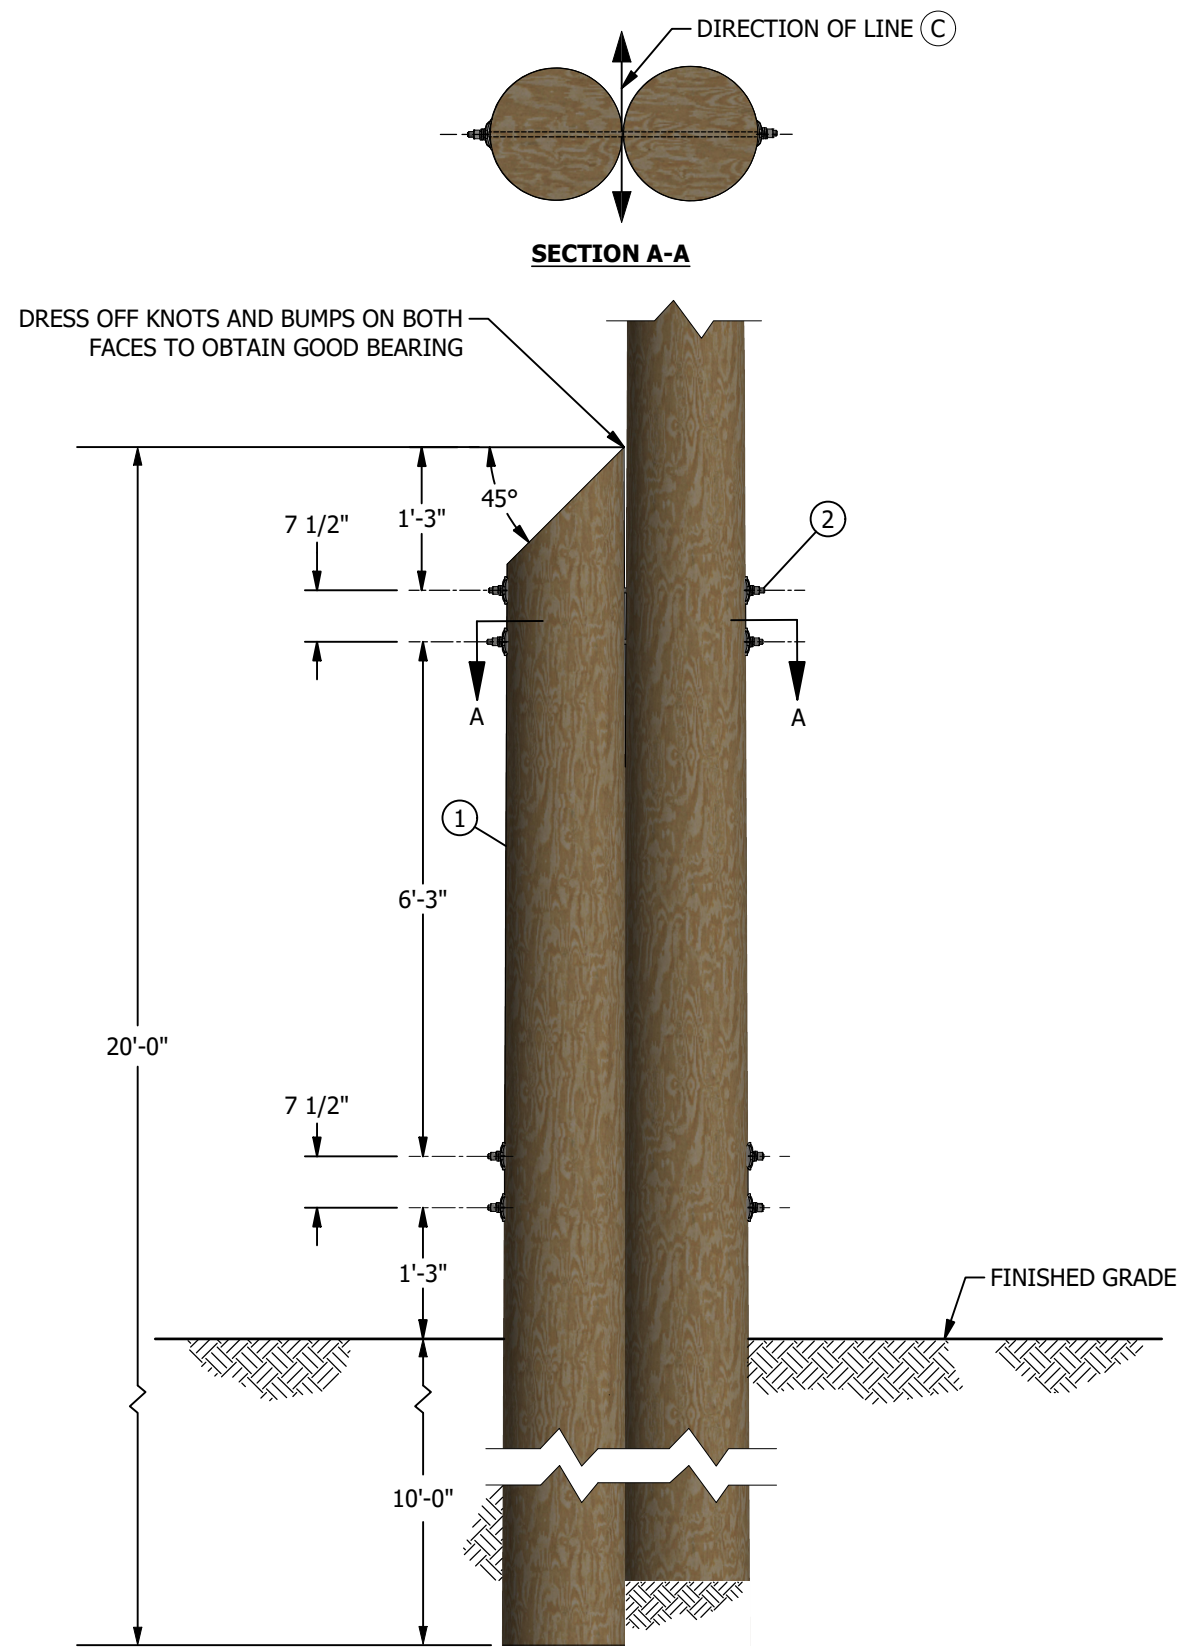

FIGURE 1
- B. STRAP INSTALLATION: STRAPS ARE TO BE INSTALLED AS SHOWN IN FIGURE 1 AND 2. EACH STRAP SHALL HAVE TWO SEALS, AND EACH SEAL SHALL BE CRIMPED TWICE. THE BANDING FOR SINGLE 9" TRUSSES AND LARGER, INCLUDING DOUBLE TRUSSES, MUST BE DOUBLE WRAPPED AND SEALED WITH PROPER SEALS.